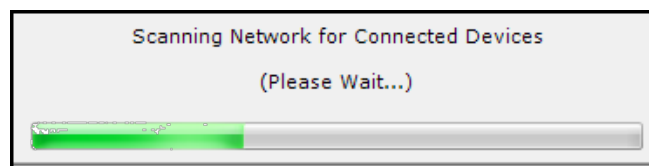
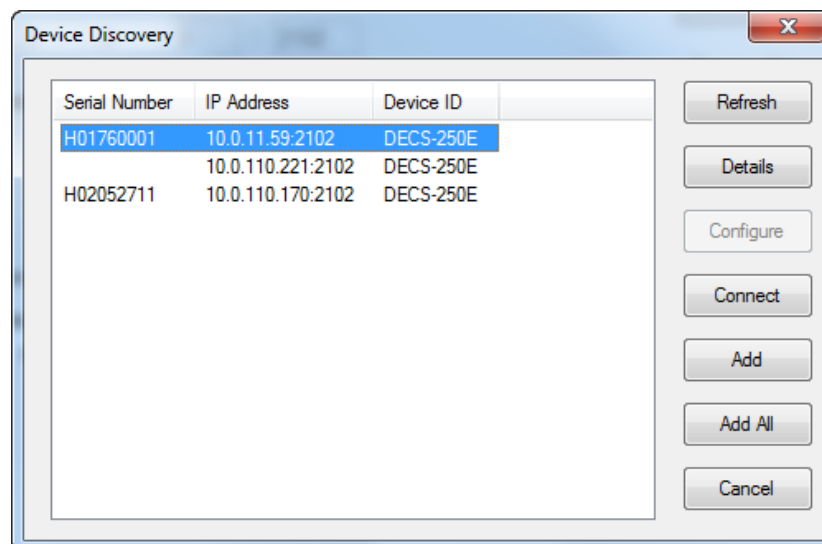

Figure 126. Scanning for Connected Devices
Figure 127. Device Discovery Window
4. If you don't know the IP address, you can perform a scan (Figure 126) to search for all connected devices by clicking the *Ethernet* button in the Device Discovery box. After the scan is complete, a window containing the connected devices will be displayed. (Figure 127)
6. Choose the desired device from the list and click *Connect*. Wait for connection to complete (Figure 127).